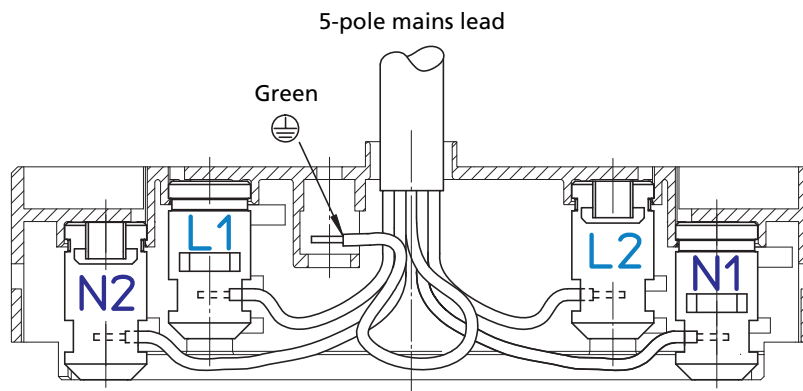
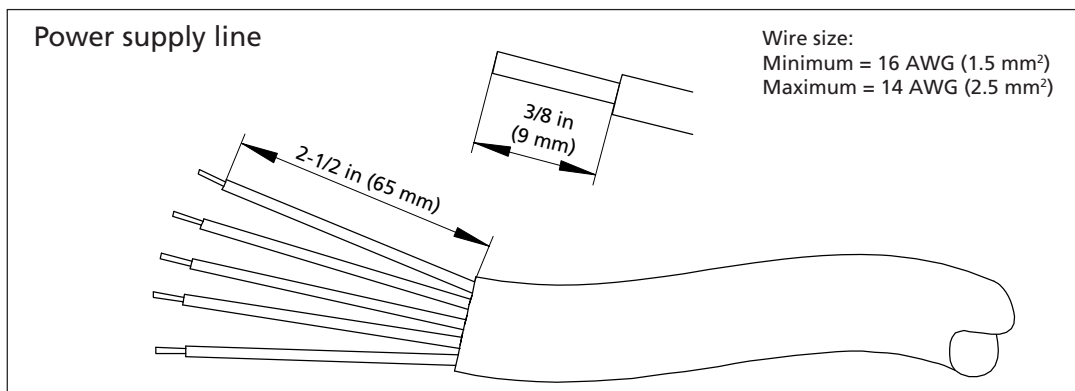

Figure 14: Wiring
Figure 15: Dismantling and insulation strip lengths
- 7: After the mid feed has been fixed securely into place, wire the individual circuits and the ground conductor as shown. When wiring the track, check that the ground conductor (green) and the neutral conductors (white) are connected as indicated in Figure 14 and Figure 15. Circuits 1 and 2 can be wired as required.